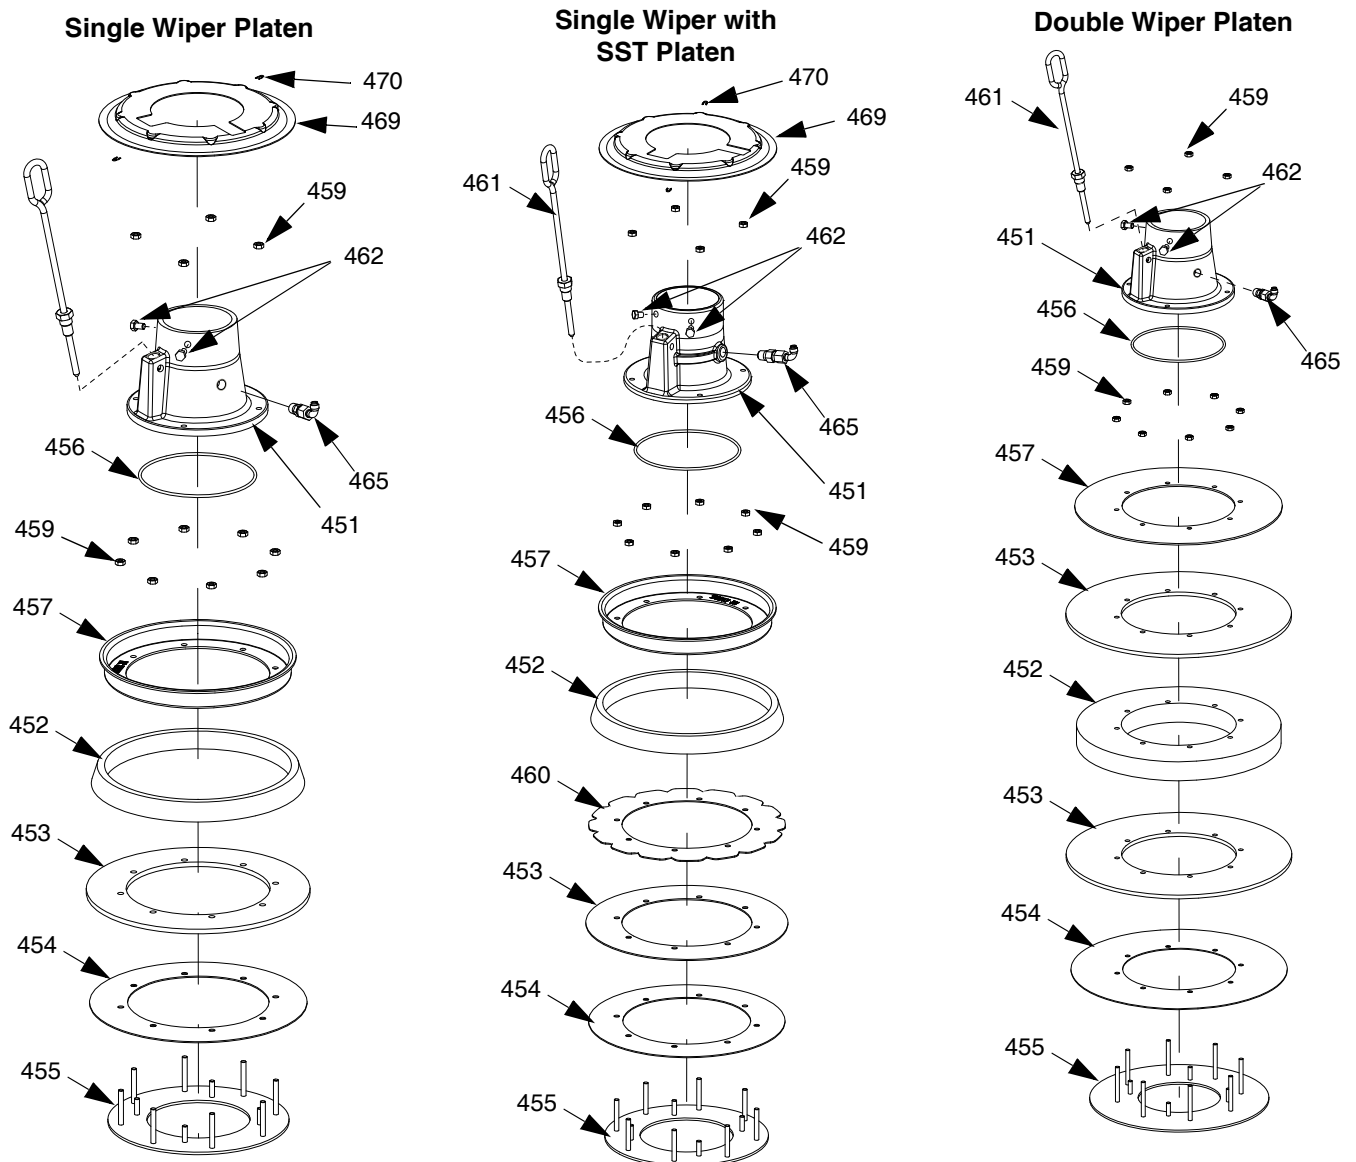

FIG. 18: Single and Double Wiper Assemblies
1. Remove the wiper assembly; see FIG. 18:
- a. For all single wiper platens: Remove the two clips (470) with needle nose pliers and remove the platen cover (469).
- b. Remove the eight nuts (459) that hold the wiper assembly to the platen casting (451) and remove the wiper assembly.
2. Remove the eight nuts (459) on the wiper assembly.
3. Separate the top plate (457), spacer (452), wiper(s) (453), wiper support (454), and bottom plate (455).